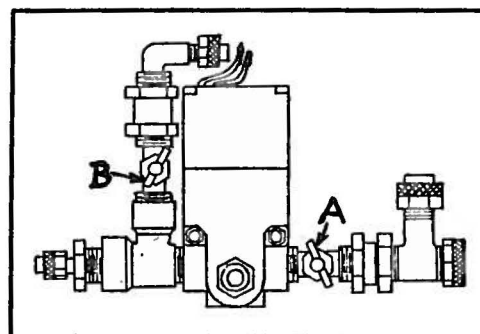

Fig. 27
3. While heeling back observe the presser foot rise, the foot should rise smoothly. If adjustment is needed, adjust needle valve (A, Fig. 27).
Sew on a piece of material and trim. Leave foot up and remove material to rear. Now open needle valve (B, Fig. 27) until the air blows the trimmed needle thread over the top of the presser foot. It may be necessary to rotate mounting collar or position wiper tube up or down to obtain proper air flow to the needle thread.